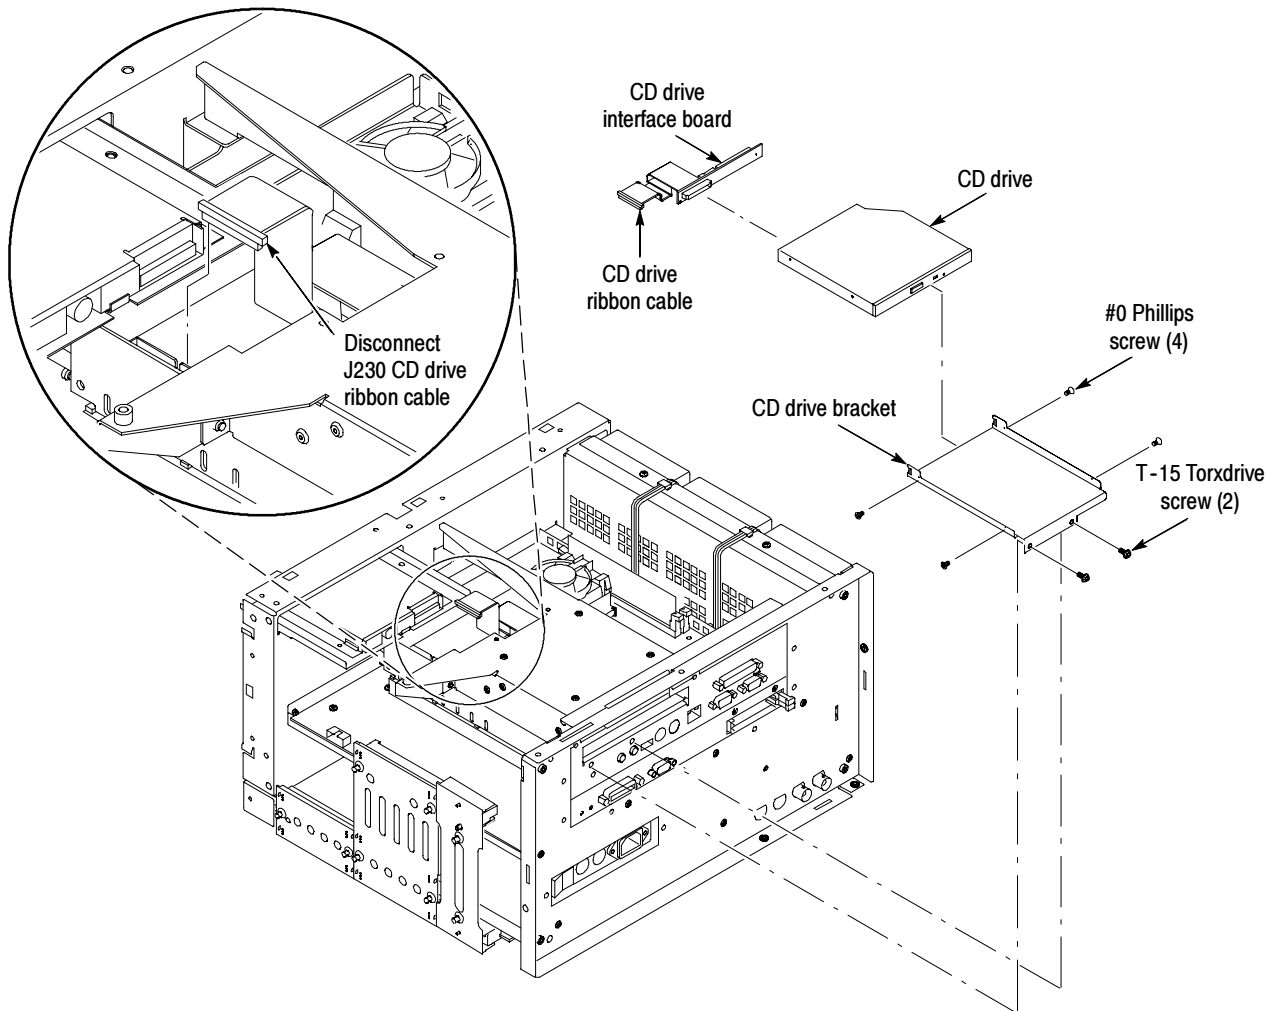

Figure 10: CD drive and bracket removal
5. *Remove the CD Drive bracket and Rom interface board:* See Figure 10 on page 19.